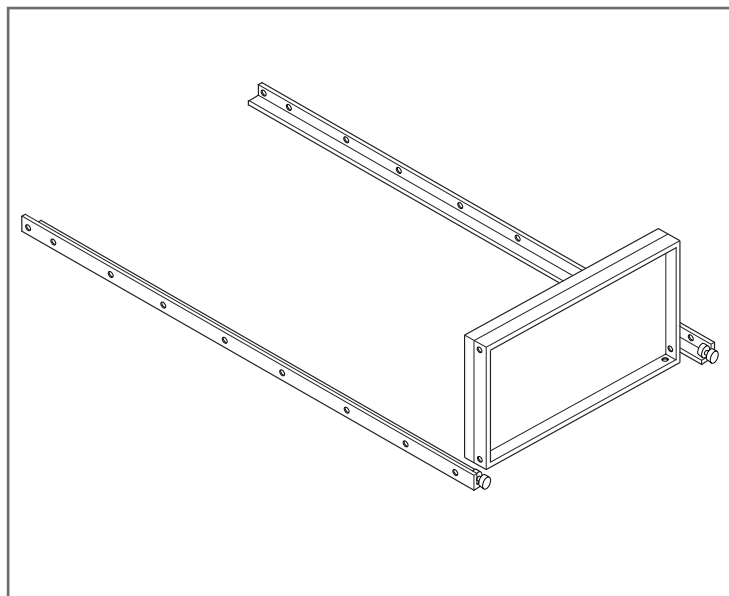

Figure 2
4. Lay one left and one right leg (E) on a flat, stable surface. The holes in the legs will face outward. Ensure that the adjustable feet are facing the same direction.
5. Position the bottom shelf (A & D) between the two legs, aligning the holes in the shelf with the holes in the legs (Figure 2).